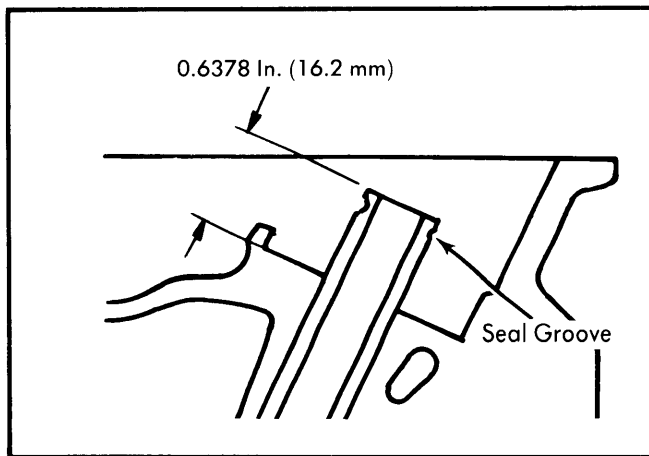

Fig. 5 Installing Valve Guide to Proper Depth
2) To remove guides, use driver (J-26512) to drive guide upward. Drive new guide in until it extends 0.6378" (16.2 mm) above cylinder head, (See Fig. 5). Be sure valve moves freely in guide. Install seals over guides and reassemble.